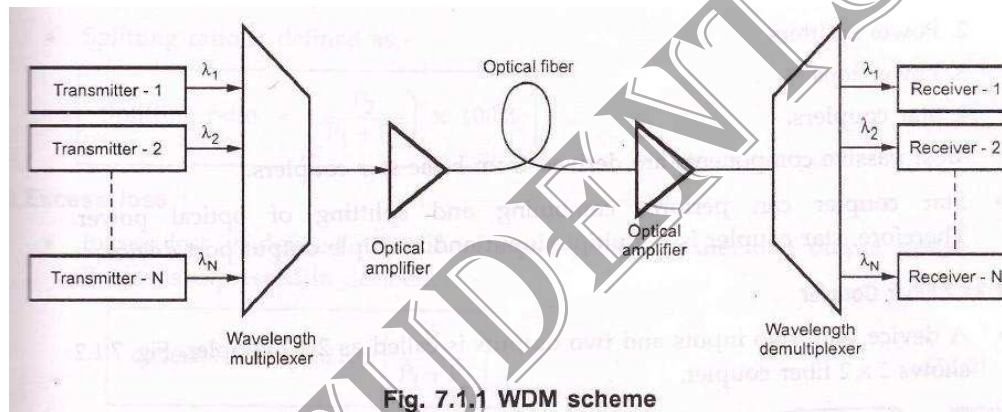

Fig. 7.1.1 WDM scheme
- x Each input is generated by a separate optical source with a unique wavelength. An optical multiplexer couples light from individual sources to the transmitting fiber. At the receiving station, an optical demultiplexer is required to separate the different carriers before photodetection of individual signals. Fig. 7.1.1 shows simple SDM scheme.